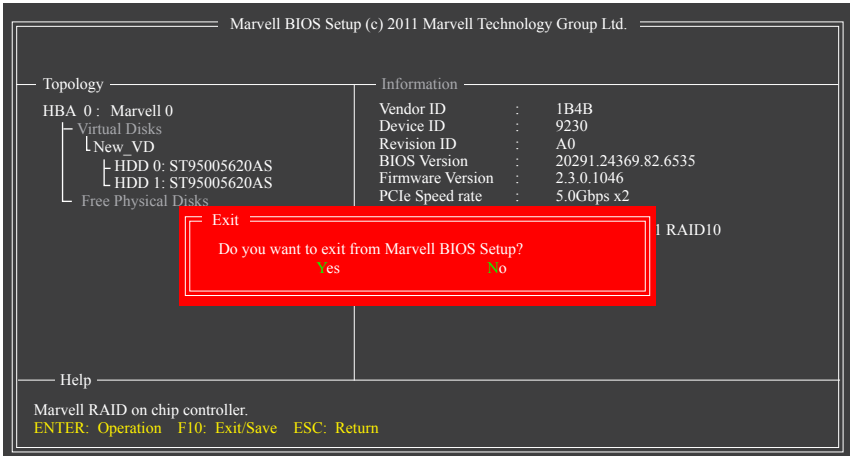

Figure 7
5. Save the Settings and Exit. After you complete the RAID configuration and before you exit the configuration screen, be sure to press <F10> in the main screen. Press <Y> to confirm or <N> to cancel (Figure 7). Now, you may proceed to the installation of the SATA driver and operating system.